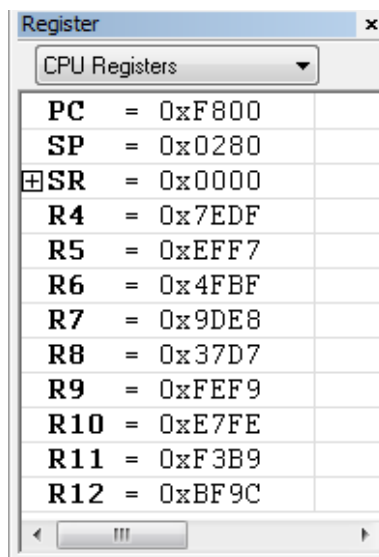

Figure 1.17: IAR register window.
18. Click View > Register and note that the Register window is added. The Register window should look something like the one shown in Figure 1.17. Now click